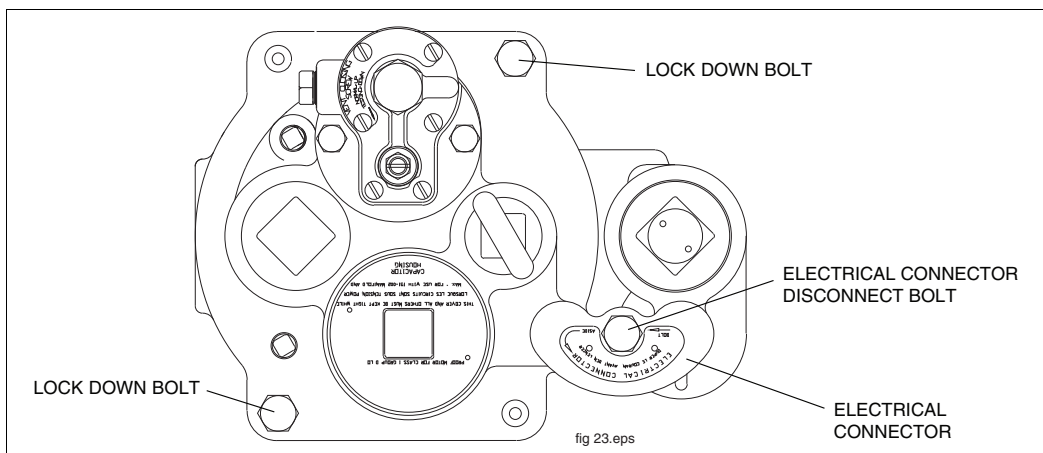

Figure 28. Packer
2. Back out the electrical yoke disconnect bolt (see Figure 28).